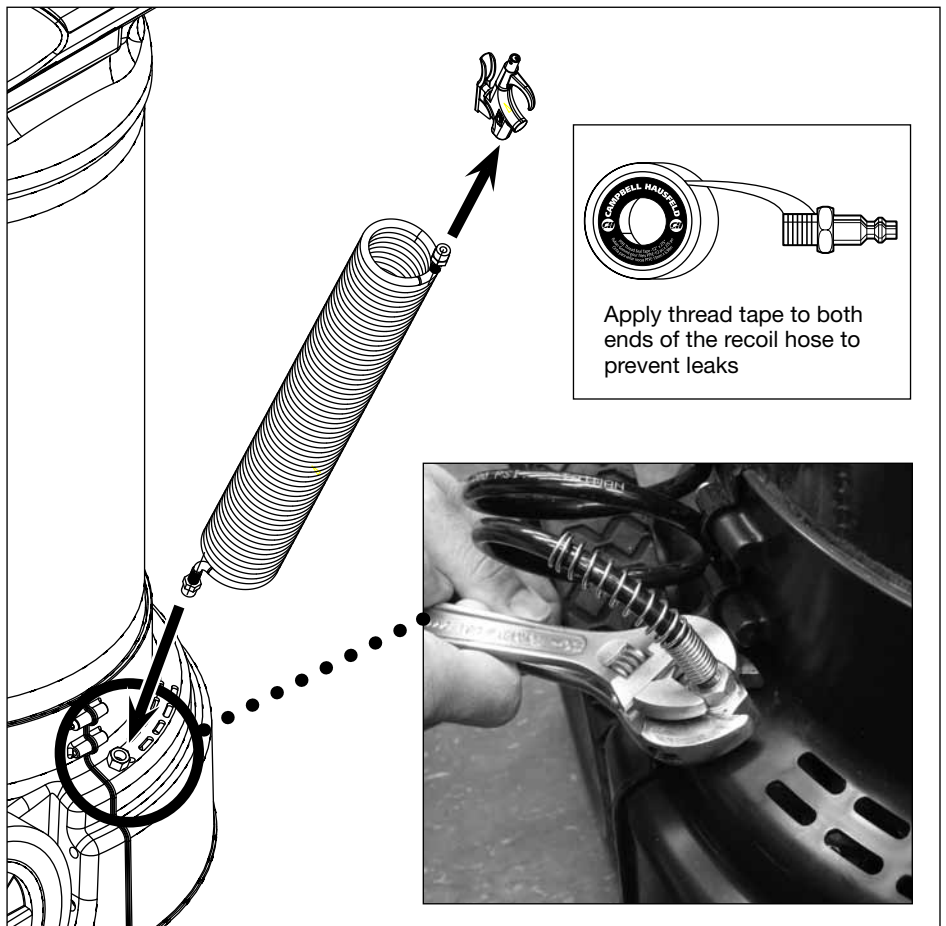

Figure 10 - Inflation hose assembly
2. Thread the coil hose into the fitting on the shroud. Use 2 adjustable wrenches to tighten the connection by holding the bottom wrench steady and tightening with the top wrench (See Figure 10).
1. Connect recoil hose to open port located on the bottom of compressor (See Figures 10 and 15). **The coil hose and blow gun must remain attached so that the unit operates properly.**